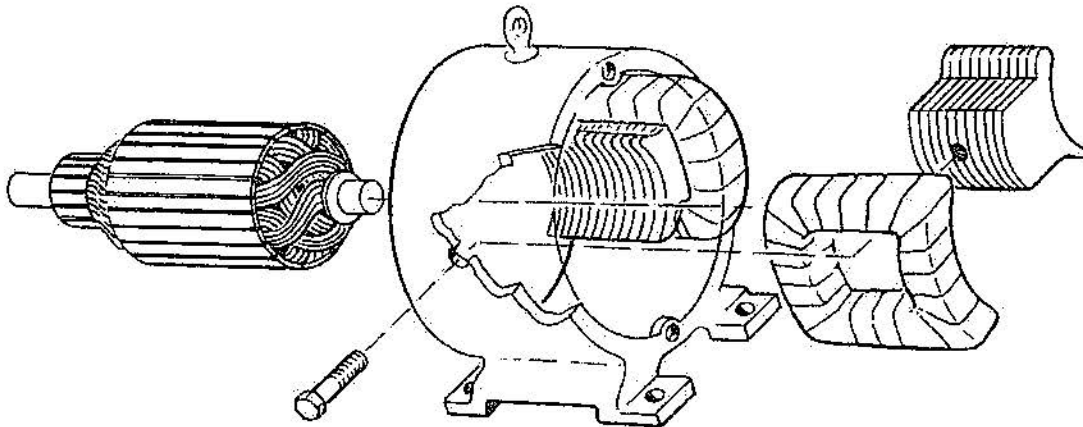

Figure 1
5. For the diagram of figure 1, label the following: